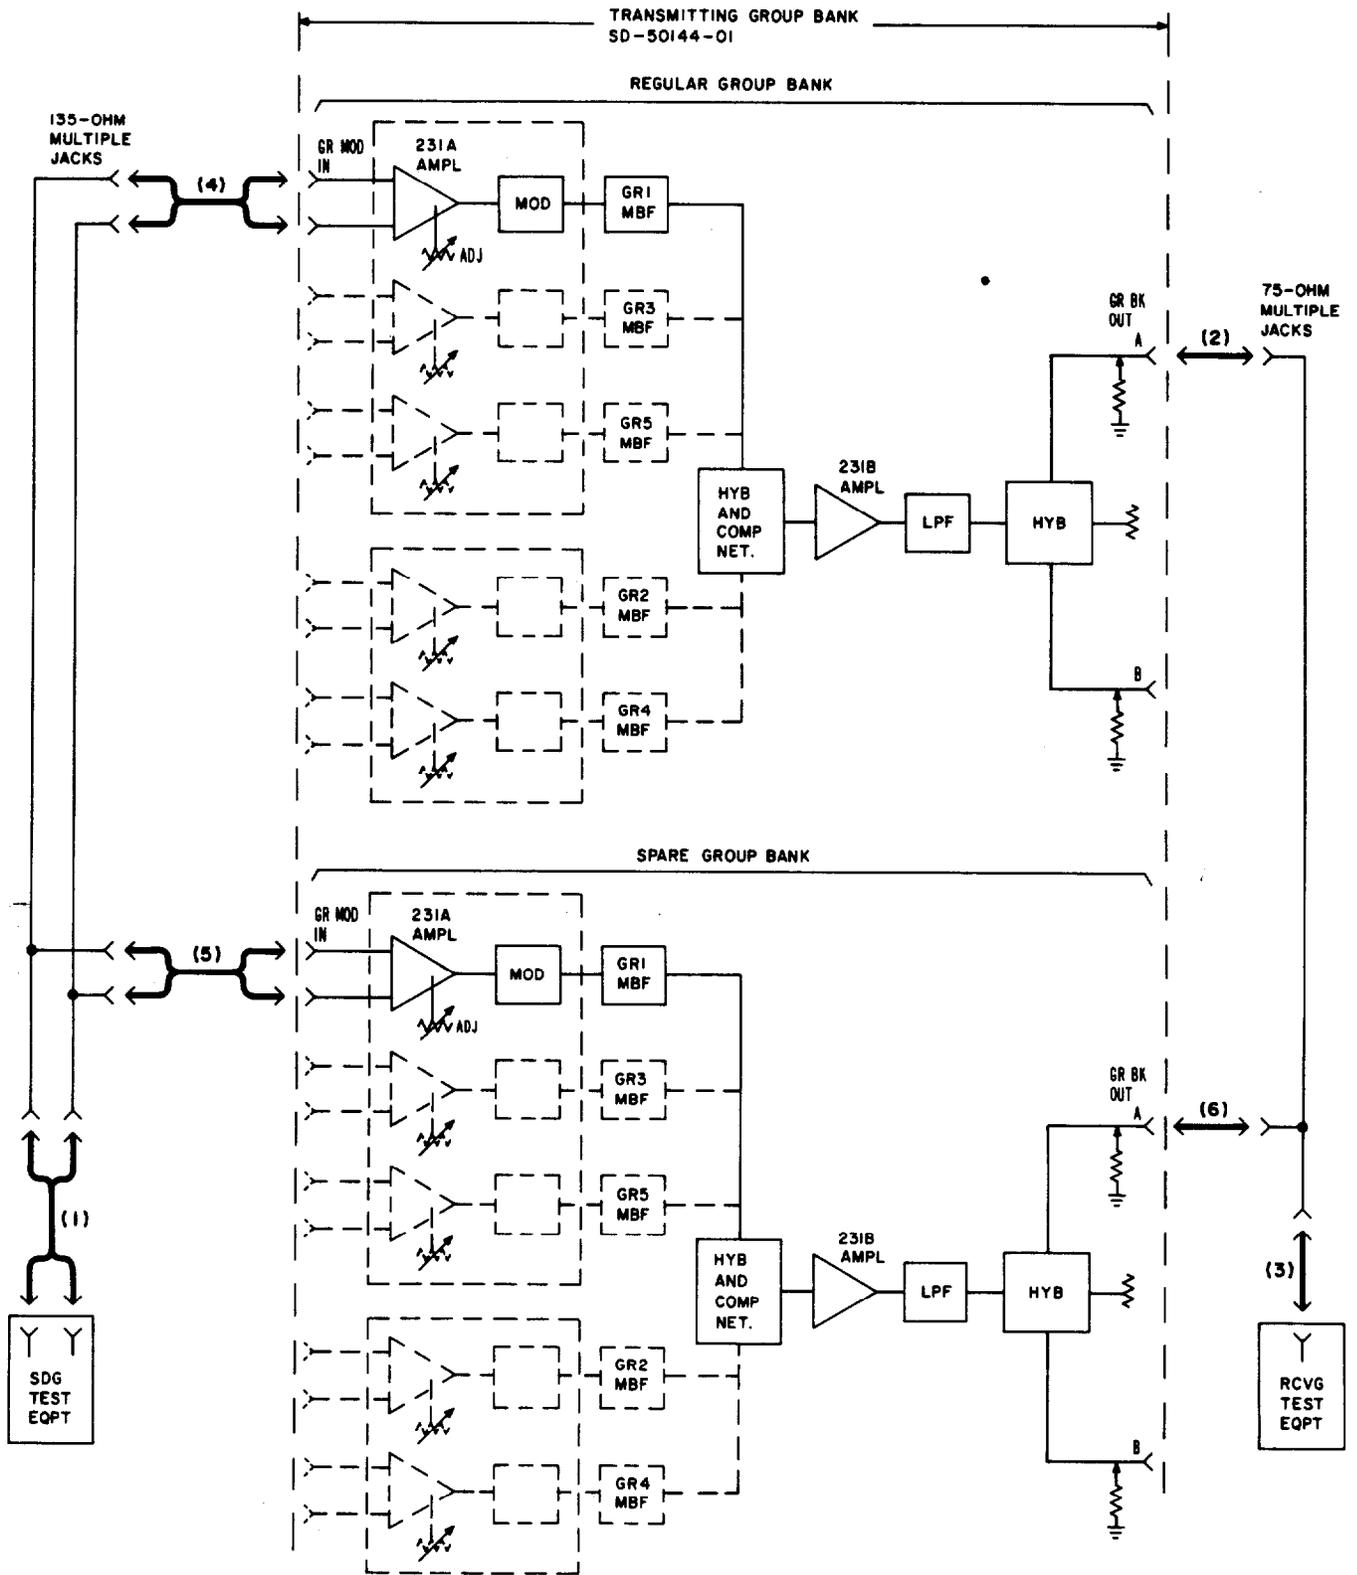

Fig. 2—Group Modulator—Group Turnover Test
13	<p>Remove patches (1) and (4) in Fig. 1.</p> <p>Group Turnover (See Fig. 2)</p>
15	<p>Verify that the test equipment is connected to the selected circuit [patches (1), (2), (3), and (4), Fig. 2].</p>
16	<p>Connect the 75-ohm multiple jack to the identically-numbered modulator circuit (same as the modulator circuit selected in Step 14) in the spare group bank [patch (5), Fig. 2].</p>
18	<p>Remove patch (2) and make patch (6) in Fig. 2.</p>
21	<p>Make patch (2) in Fig. 2.</p>
26	<p>Remove patches (1), (2), (3), (4), (5), and (6) in Fig. 2.</p>